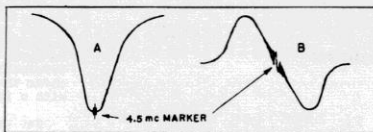

Fig. 14. Audio I-F Curves
4. The secondary of T341 is adjusted for the curve of Figure 14-B. This adjustment should give as straight a slope as possible between the positive and negative peaks of the curve with the center of the 4.5 mc marker falling midway between the peaks.